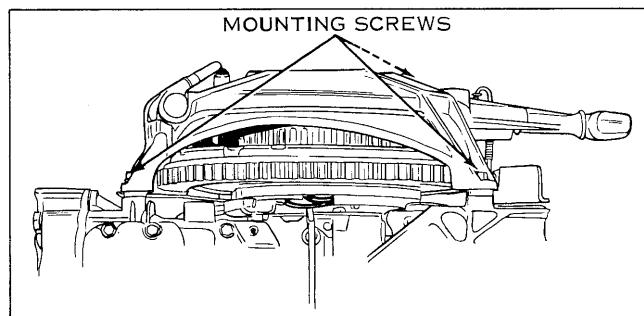

FIGURE 1
2. Remove the three screws attaching the manual starter to the powerhead and lift off the complete assembly. See Figure 1.